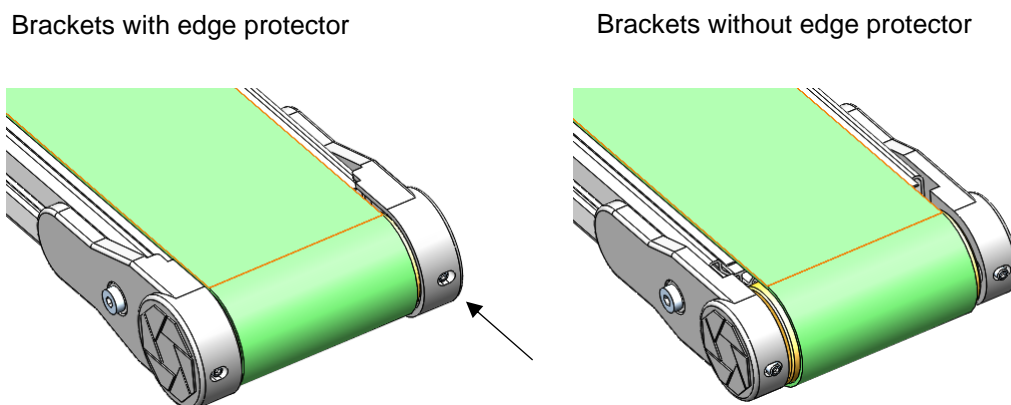

Fig. 4: Return station brackets
- Align the conveyor body segments with each other (Fig. 4).